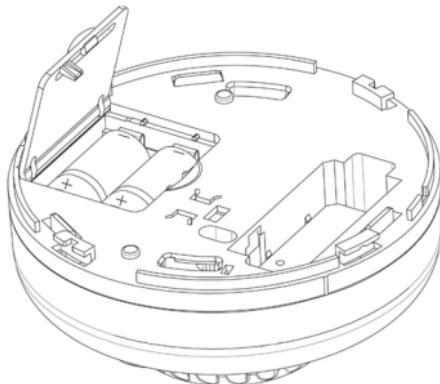

Figure 10: Battery Replacement
4. Insert the new batteries while observing battery polarity (see Figure 10), and close the battery compartment cover.